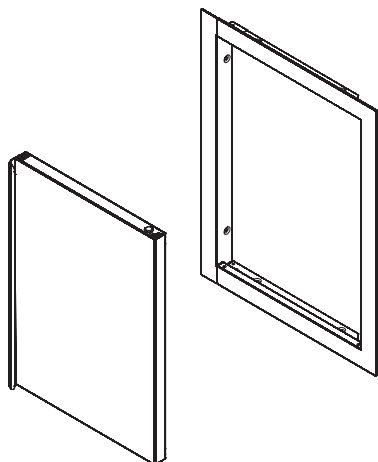

Figure 1
1. The BDA Single Door will be fully assembled when it is shipped out. Remove door from frame by depressing one of the spring loaded pins and set aside. See Figure 1.